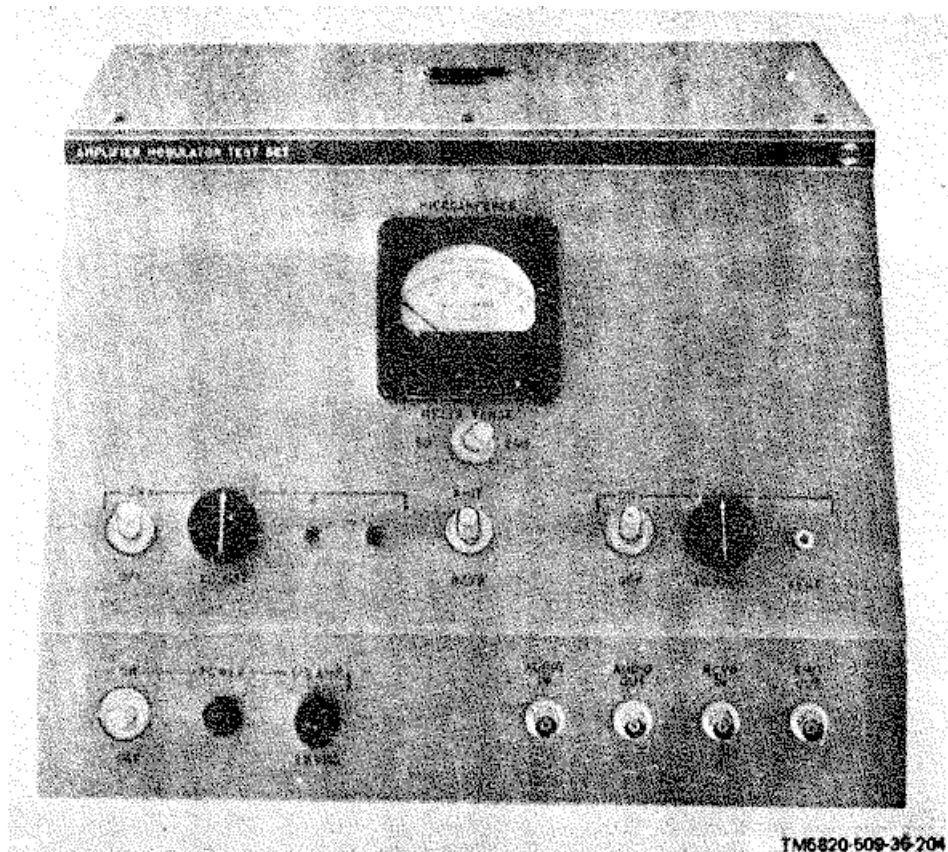
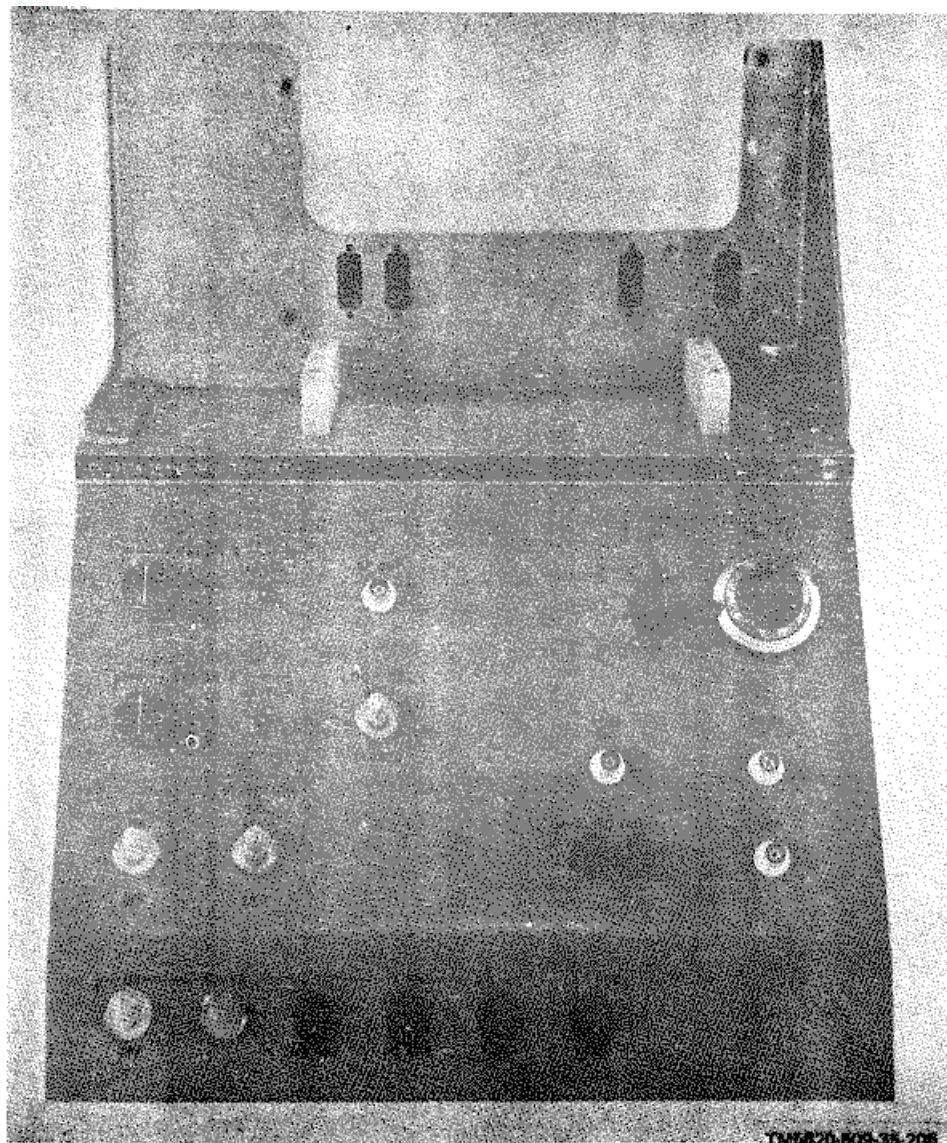
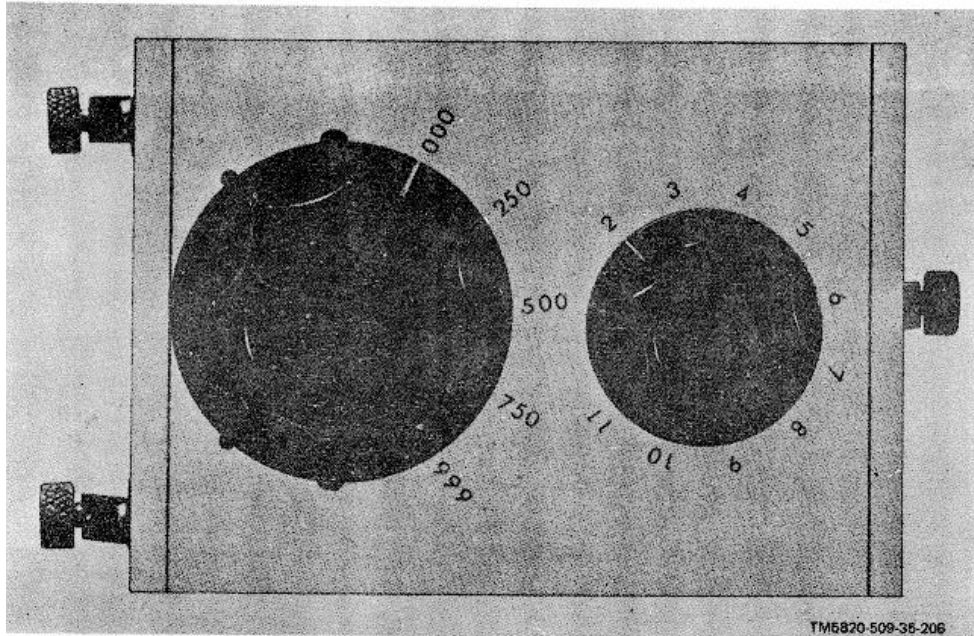
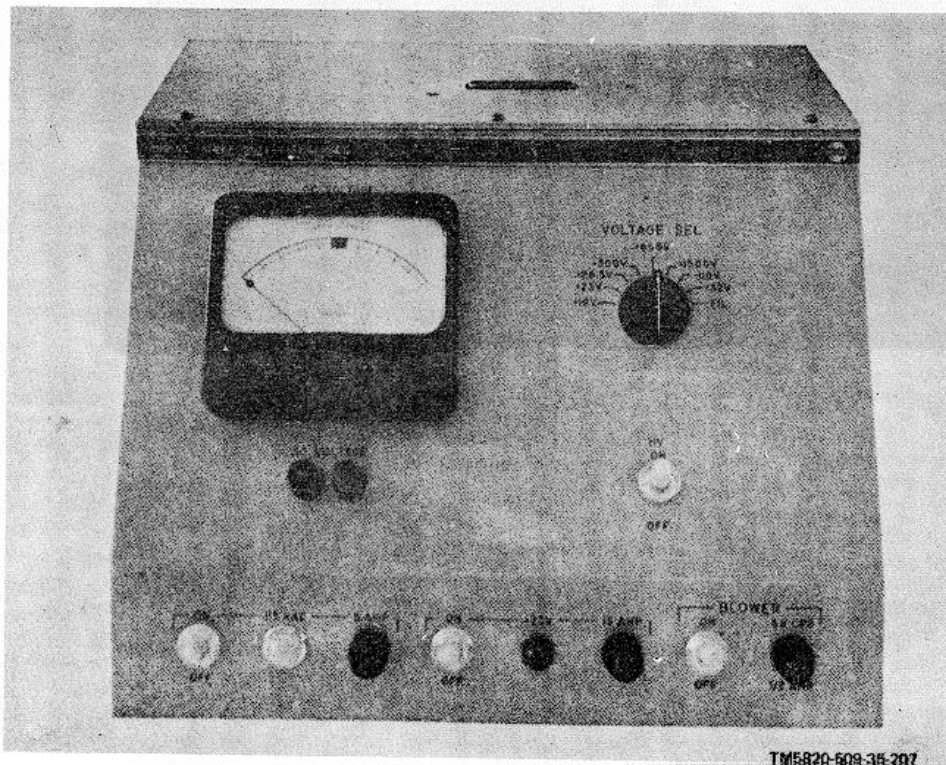

Figure 6-5. Test Fixture for AM-3507/PRC-47, Suggested Layout.
Figure 6-6. Test Fixture for CV-1377A/PRC-47, Suggested Layout.
Figure 6-7. Indexing Fixture for CV 1377A/PRC, Suggested Layout.
Figure 6-8. Test Fixture for PP-3518/PRC-47, Suggested Layout.
- (1) Initial settings and adjustments.
- (2) Maximum output levels, receive mode.
- (3) Frequency response and distortion, receive mode.
- (4) AVC signal gate operation, receive mode.
- (5) Harmonic distortion and frequency response, transmit mode.
- (6) Frequency response at nominal output, transmit mode.
- (7) CW oscillator operation test.6-7.
b. *Amplifier-Modulator AM-3507/PRC-47*. The following tests must be performed using the test fixture for AM-3507/PRC-47 (fig. 6-5). A schematic diagram, parts layout photographs, and parts lists for this test fixture are included in section III.
- (2) Output, receive mode.
- (3) Distortion.
- (4) Selectivity.
- (5) Response, receive mode.
c. *Signal Data Translator CV-1377A/PRC-47*. The following tests are to be performed using the test fixture for CV-1377A/PRC-47 (fig. 6-6) together with the indexing fixture (fig. 6-7). Configuration drawings, parts layout photographs, parts lists and schematic diagrams for these test fixtures are included in section III.
- (1) Mechanical alignment.
- (2) 5- to 14-MHz ringer circuit alignment.
- (3) Oscillator output adjustment.
- (4) Oscillator alignment and tracking adjustment
- (5) Rf alignment, receive mode.
- (6) Rf alignment, transmit mode.
- (7) Oscillator control isolation amplifier test.
d. *Power Supply PP-3518/PRC-47*. The following tests must be performed using the test fixture for PP-3518/PRC-47 (fig. 6-8). A schematic diagram, parts layout photographs, and parts lists for this test fixture are included in section III.
- (2) Performance tests, 26.5-volts dc primary power source.